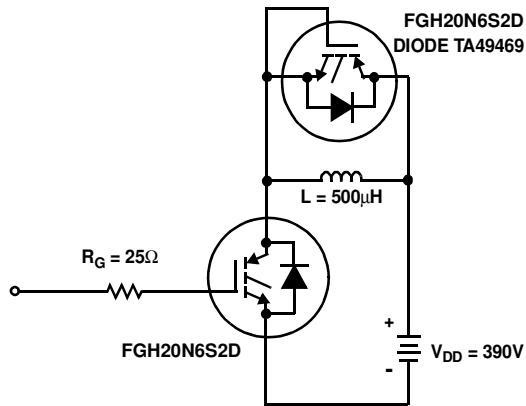

Figure 26. Inductive Switching Test Circuit
| E_{ON2} | Turn-On Energy (Note 1) | Test Circuit - Figure 26 | - | 85 | - | μJ |
| E_{ON2} | Turn-On Energy (Note 1) | Test Circuit - Figure 26 | - | 125 | 140 | μJ |
1. Values for two Turn-On loss conditions are shown for the convenience of the circuit designer. E_{ON1} is the turn-on loss of the IGBT only. E_{ON2} is the turn-on loss when a typical diode is used in the test circuit and the diode is at the same T_J as the IGBT. The diode type is specified in figure 26.